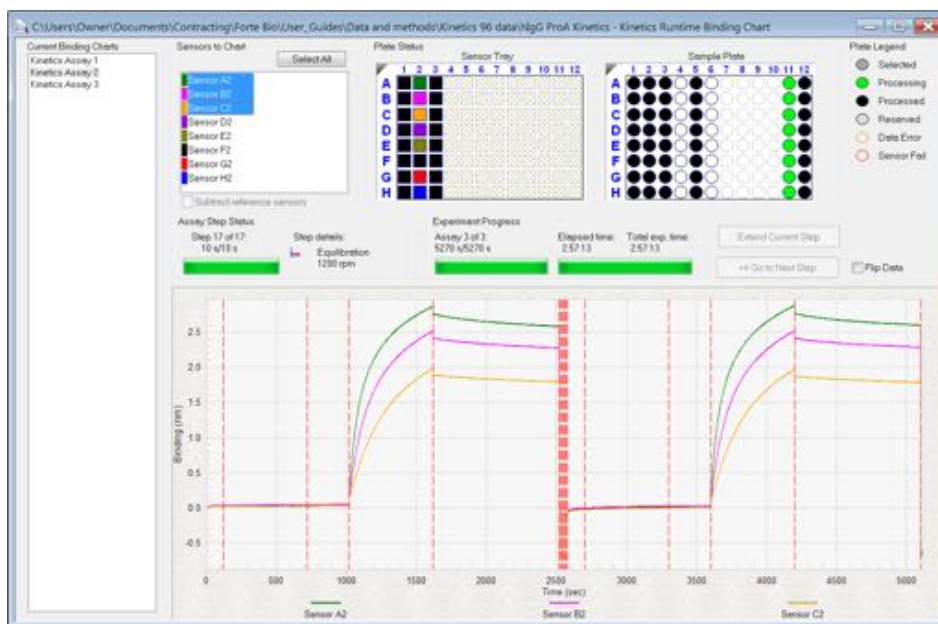

Figure 9-59: Runtime Binding Chart Window
If the **Open runtime charts automatically** check box is selected in the Run Experiment window (Figure 9-59), the Runtime Binding Charts are automatically displayed when data acquisition starts. The **Runtime Binding Chart** window displays the assay step status, experiment progress, and the elapsed experiment time.
2. Select a subset of sensors for a displayed column under **Sensors to Chart** box (see Figure 9-59).